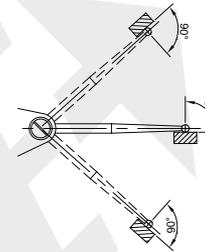
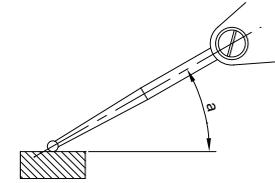

fig.4
fig.5
3. During measurement, styli should be vertical to measuring direction (fig.4). When the styli is at an angle with the measuring direction (fig.5), the following correction should be made.